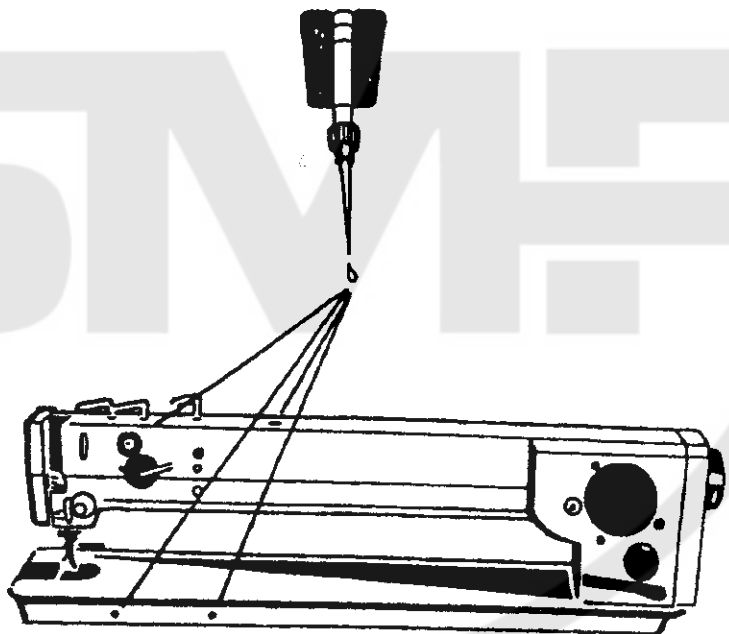

Fig. 1
5. To clean and lubricate the machine (Fig. 1)